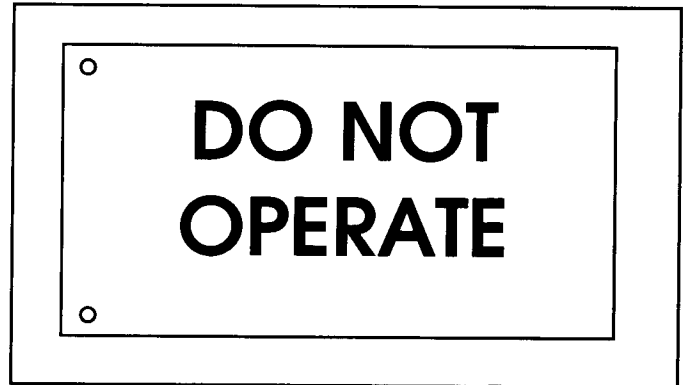

FIGURE 4.6
E. “Tag-Out” Machine– FIGURE 4.6